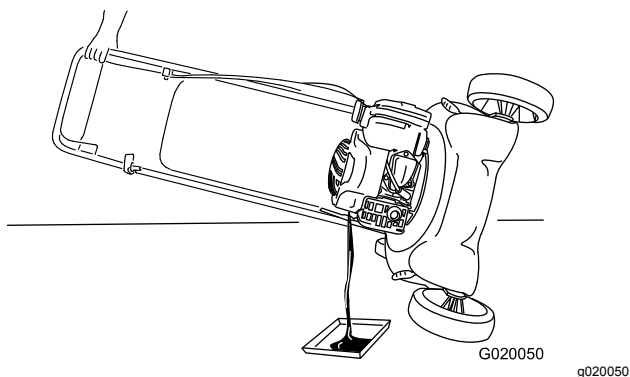

**Figure 21**
- 4. Tip the machine onto its side (so that the air filter is up) to drain the used oil from the oil-fill tube (Figure 21).